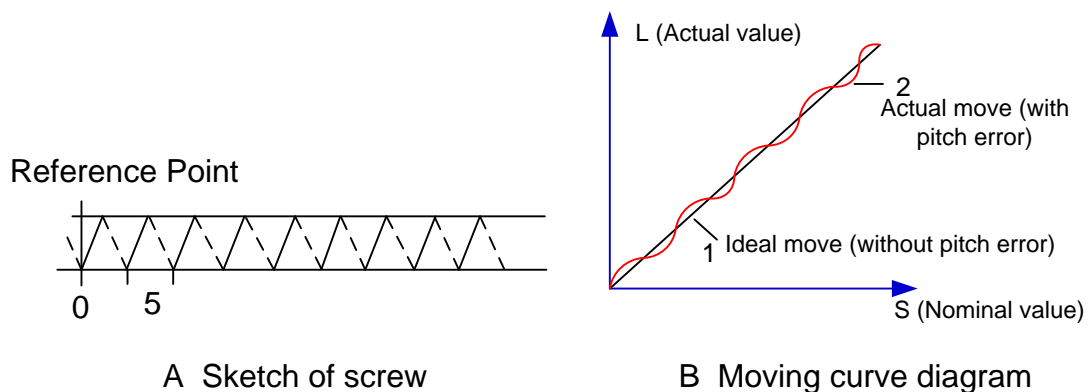

Fig. 6-12 Analysis of pitch error
Pitch error is caused by screw defect and long-term wear, etc. In order to improve precision, pitch compensation is needed to meet the requirement. The sketch of a screw is shown in Fig. 6-12 (A). A coordinate system is established, based on “0” point on the screw as the reference point, nominal value as X-coordinate, and actual value as Y-coordinate. Then the ideal moving curve is as curve “1” in Fig. 6-12 (B), however, the actual curve will be curve “2” due to pitch error. That is to say, the Actual value is not the same as its corresponding Nominal value or the actual moving curve is deviating from the ideal one. We call their difference error, i.e.: